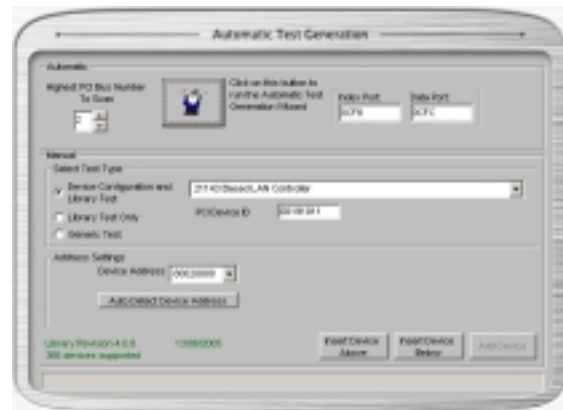

Fig. 3 – μ Master’s Automatic Test Generation window.
6. In the Automatic Test Generation window (fig. 3), select the highest PCI Bus number that the ATG should scan for devices. If you don’t know how many buses are implemented on the board, this number can be set higher than the default of 2. However, additional time will be expended even though the buses may be absent.
- b. In the “Manual” section of the ATG window (fig. 3), select the option “Device Configuration and Library Test”.